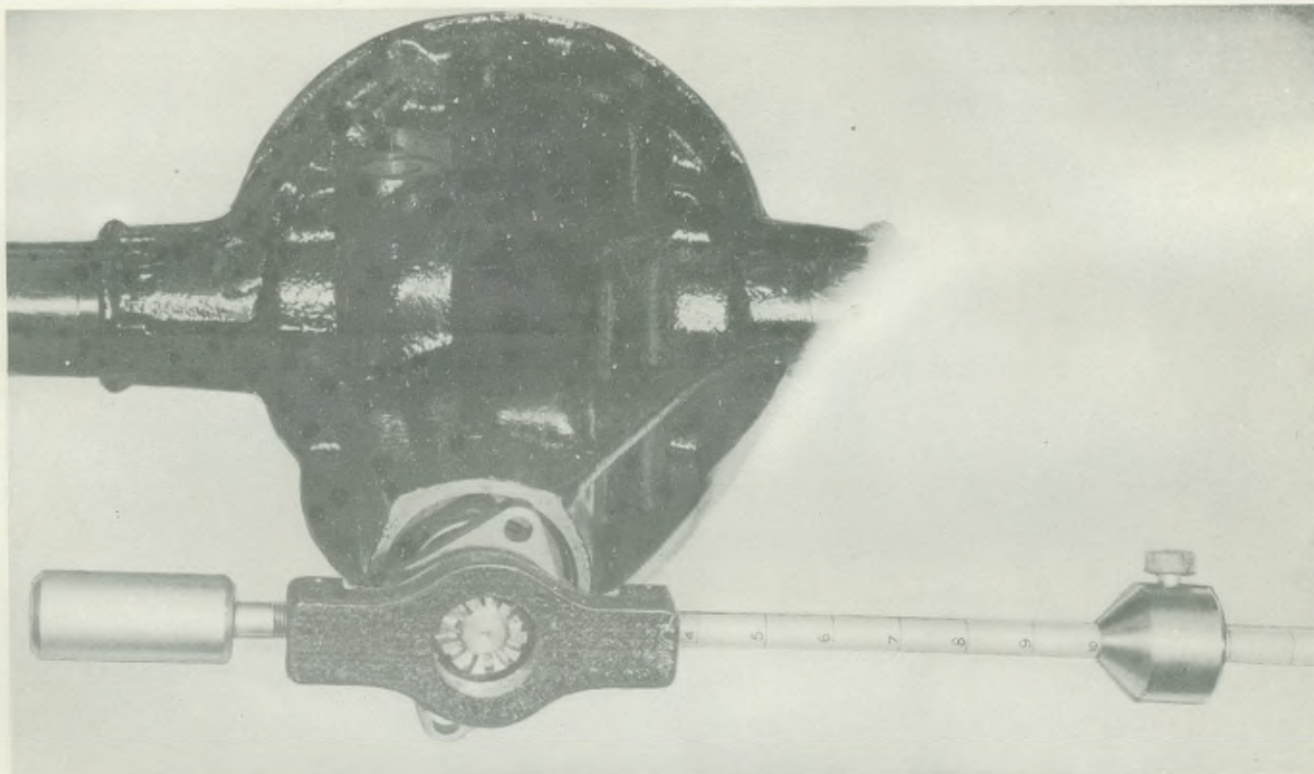

Fig. 27. Checking pinion bearing preloading with special fixture. Graduations give torque in inch-pounds
10. Having carried out the previous operation, there should be no end play in the pinion shaft and there should be sufficient pre-loading to impose a slight drag and resistance to the turning of the driving flange. The pre-loading of the oiled bearings should be such as to require a torque of 8-10 inch lbs. to revolve flange which can be accurately gauged by the employment of the fixture shown in Fig. 27.